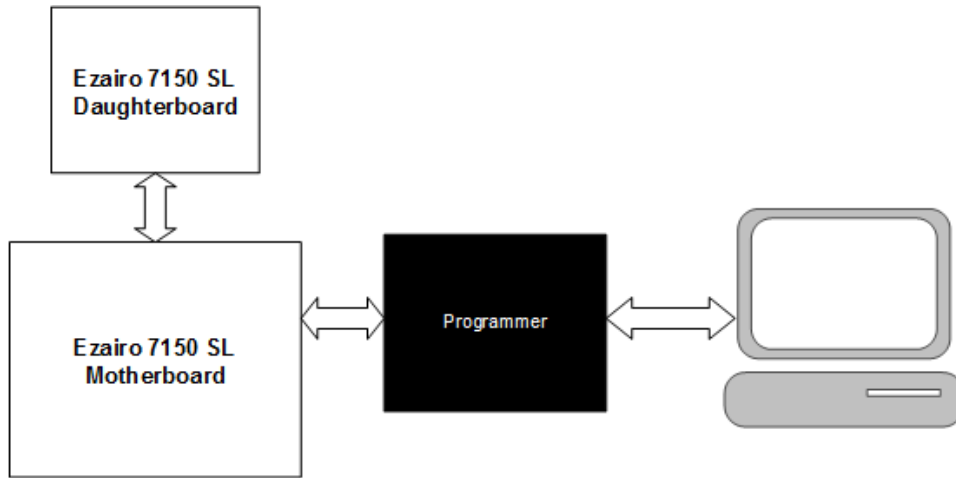

Figure 1. Hybrid Demonstrator Board Setup
This section is an overview of how to configure the hybrid demonstrator board. Figure 1 represents an overview of the
4. Choose a workspace as shown in Figure 1 on page 8. If you do not have a workspace directory available, click Browse and the software allows you to create one. If you click Browse and select a pre-existing directory for your workspace, make sure it is empty. For this example, check Import Sample Workspace, and select E7150SL from the drop-down list. Click OK.